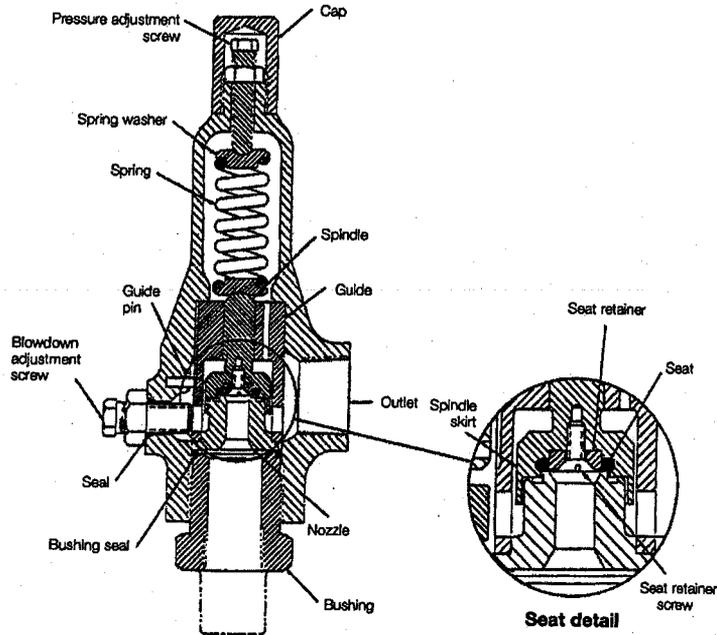

Figure 1
2. Valve repair (-4, -6, -8 Orifice) refer to figure 1
2.0 VALVE REPAIR (-4, -6, -8 ORIFICE) REFER TO FIGURE 1